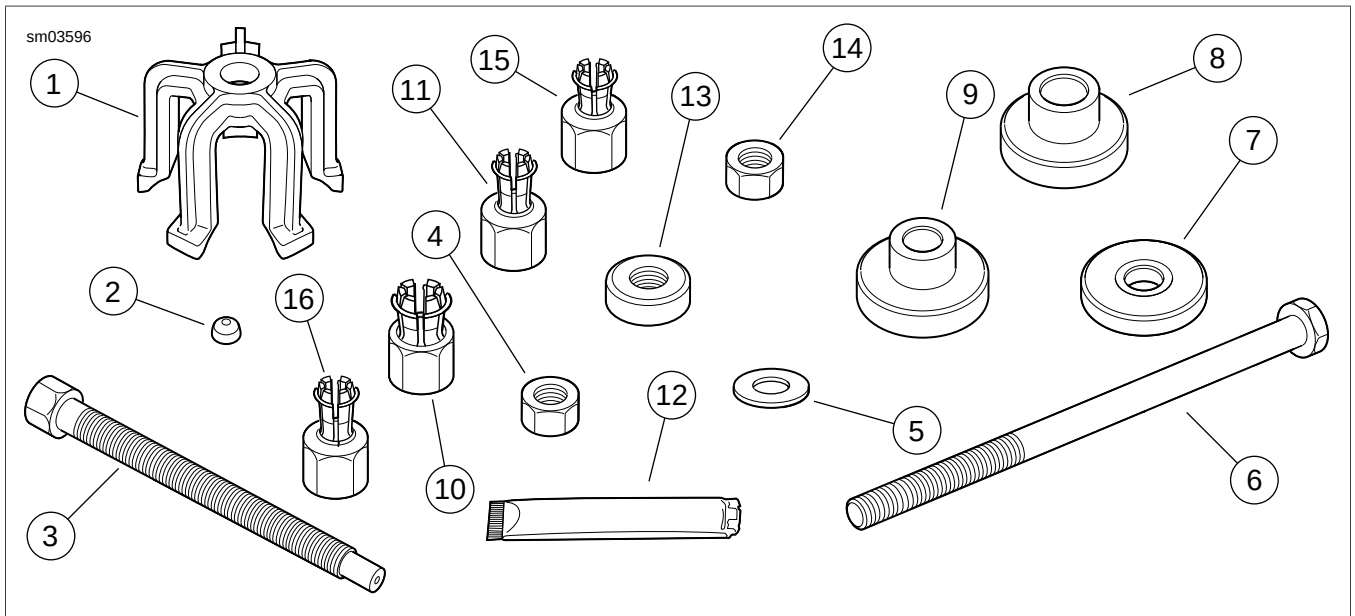
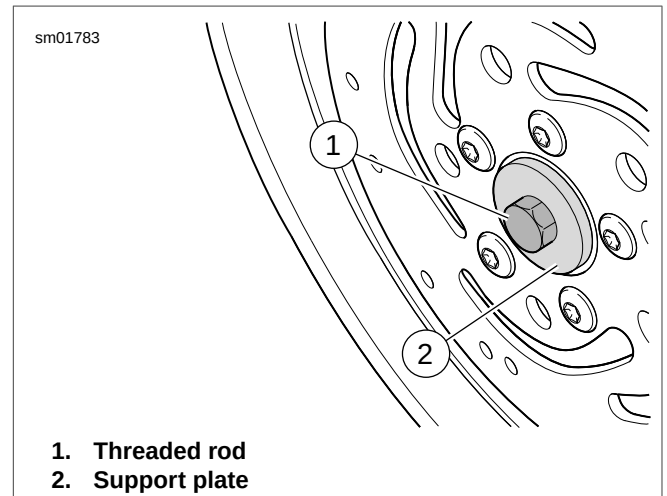

Figure 2-14. Wheel Bearing Remover/Installer (HD-44060-B) (See Table)
Figure 2-18. Assembling Installation Tool
1. See Figure 2-14. Obtain **WHEEL BEARING INSTALLER/REMOVER** (Part No. HD-44060-B) and assemble.
- a. Sparingly apply graphite lubricant to threads of threaded rod (6) for prolonged service life and smooth operation.
- b. See Figure 2-18. Place threaded rod (1) through support plate (2). Insert assembly through wheel.